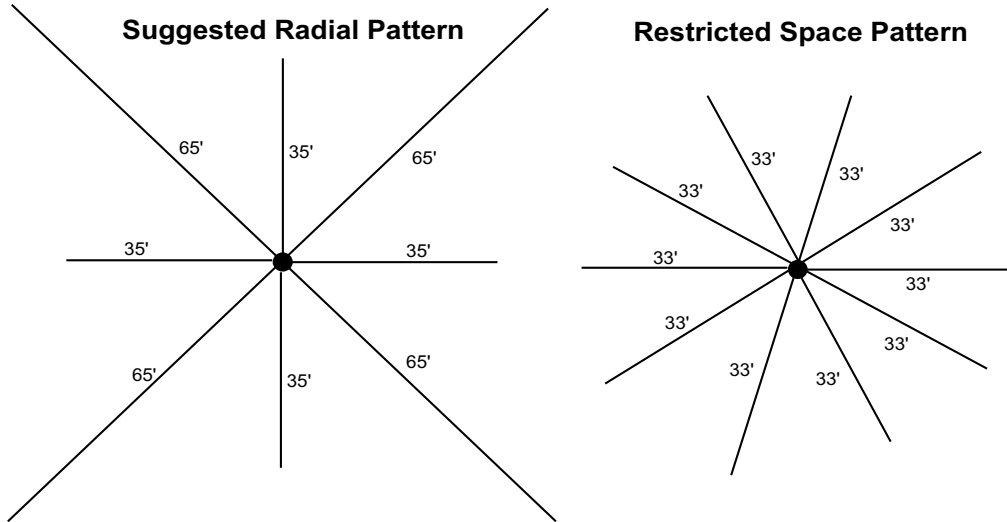

Figure-12B: Recommended radial-wire layout
- [] Unroll and install each, creating the star pattern shown in **Figure-12B**.